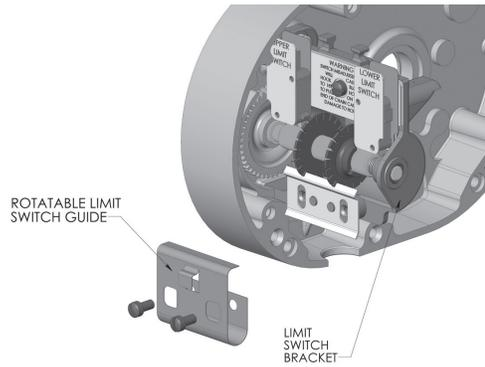

Figure 19. Rotatable Limit Switches, Models B, C & F
4. Refer to Figure 19 and 21 and assemble the limit switch guide plate to the limit switch bracket. Secure using the 2 screws.